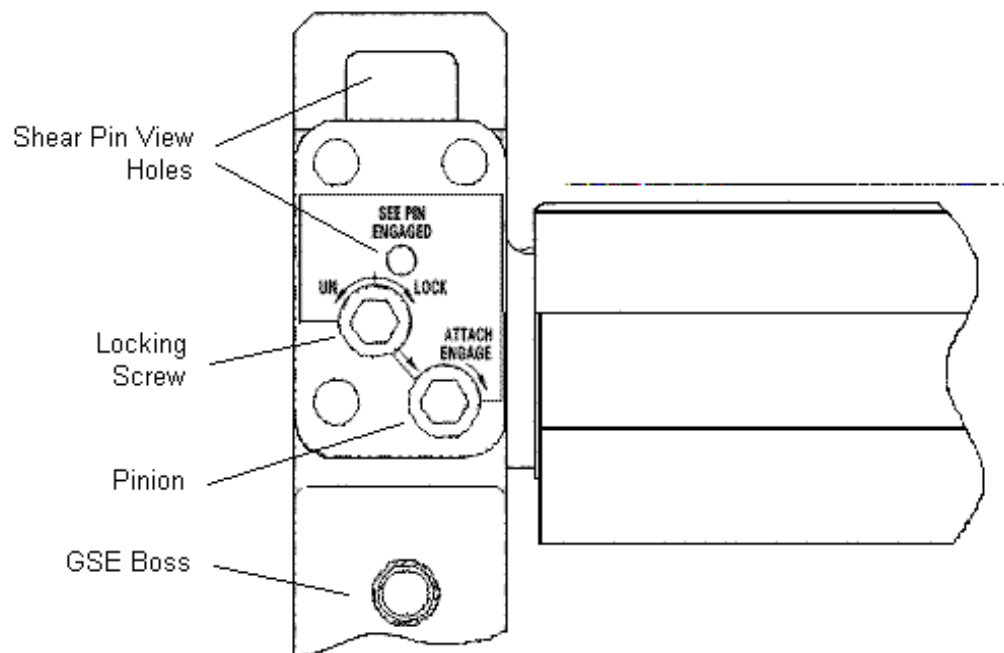

Figure 3.- Upper Attach Mechanism (left side).
4. Loosen left Locking Screw (Ratchet 3/8" Drive, 3/8" Hex Head) 10 --- 12 turns or until hard stop. See Figure 3.
5. Disengage left Pinion (Ratchet 3/8" Drive, 3/8" Hex Head) until hard stop. See Figure 3.
12. Grasp rack, slowly rotate rack up into installed position and place Knee Brace Fittings into Upper Attach Mechanism Shear Pin View Holes. See Figure 3.
13. Fully engage both Upper Attach Mechanism Pinions (Ratchet 3/8" Drive, 3/8" Hex Head) until hard stop. Shear Pin shoulder should be visible at top of mechanism. See Figure 3.
14. Tighten, snug both Locking Screws (Ratchet 3/8" Drive, 3/8" Hex Head). See Figure 3.